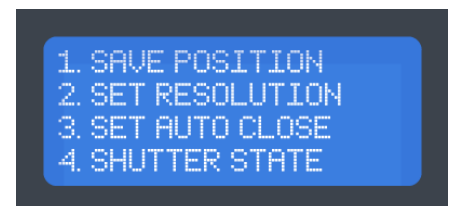

Fig. 9
3. Press the “DECREASE STEP / MENU DOWN” (▼) button once to navigate to the “2. SET RESOLUTION” setting submenu (Fig. 9).